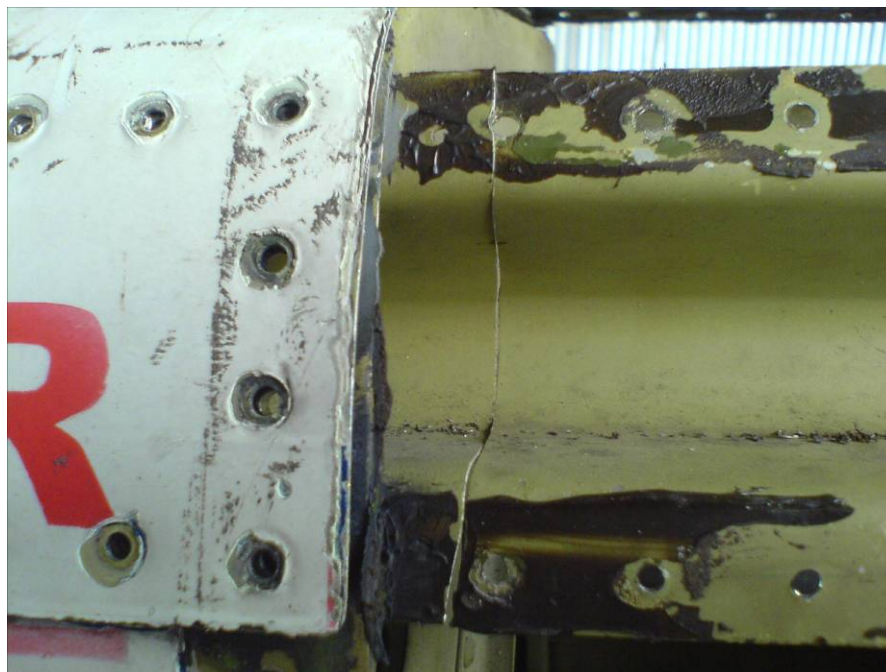

Figure 2
2. Cracking of upper and lower left longerons in the area aft of B.S.194.30 bulkhead. See Figure 2